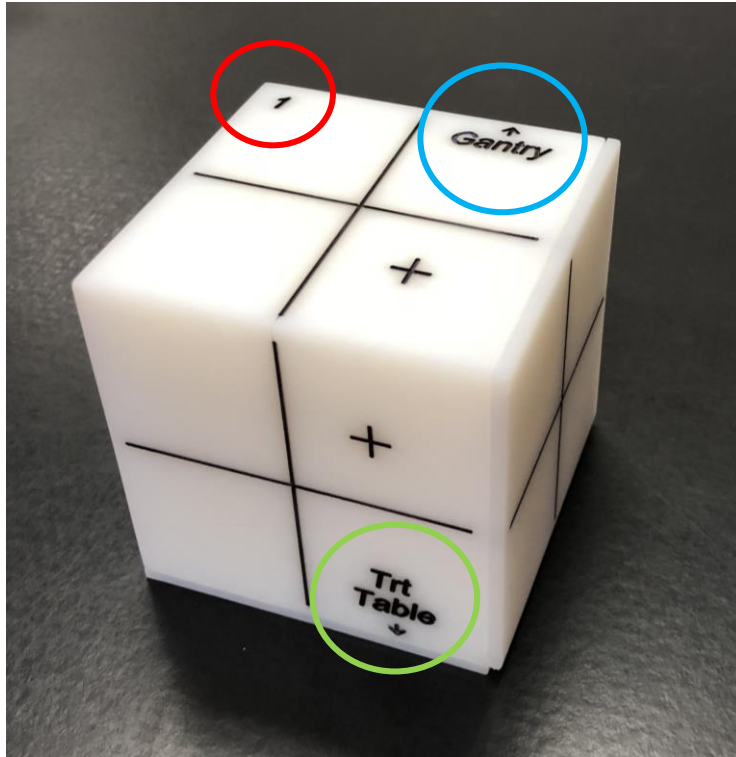

Figure 1: The IGRT remote audit cube phantom
This phantom tests two things: 1) your IGRT system's ability to image an object on the couch and align it with the imaging isocenter and 2) the coincidence of the imaging and radiation isocenters. The box you received contains a cube phantom (Fig 1) for each IGRT-capable machine in your clinic. The cubes have a ball bearing in the center and are loaded with radiochromic film. **DO NOT disassemble the cube.**
2. Set the cube phantom on the treatment couch ensuring that the arrow labeled “Gantry” (circled in blue in Fig 1.) points to the gantry and the arrow labeled “Trt Table” (circled in green in Fig 1.) points to the treatment table. Align the cube using the lasers to the plus signs on the cube (+) which are offset from the center of the cube phantom. The phantom should be square with the radiation field (i.e., normal incidence of the beams on the faces of the phantom). The cube phantom number (circled in red in Fig 1.) will be on the top of the phantom. Use the numbered cube assigned to the machine that you are using.